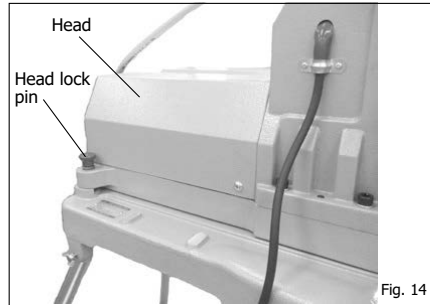

Fig. 14
- 5) Use the lock pins correctly. (Refer to Figs. 14 and 15)
3) Head lock pin (Fig. 14)